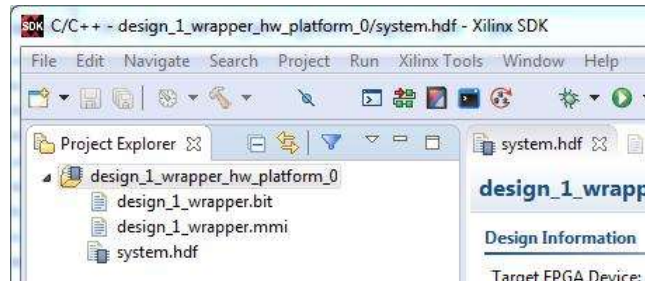

Figure 35: SDK New Project Selection
1. In SDK, right-click **mb-subsystem\_wrapper\_hw\_platform - 0** in the Project Explorer and select **New -> Project**, as shown in Figure 35.